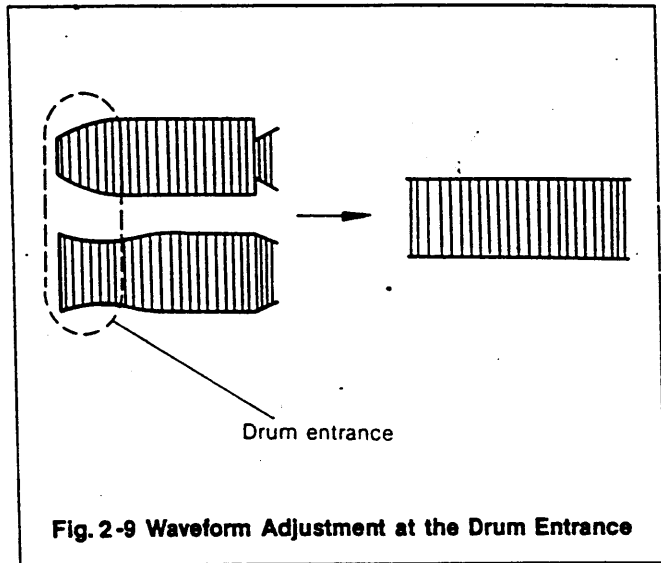

**Fig. 2-7 Adjustment Point**
- E. If the section B in Fig. 2-7 does not meet the specification, adjust the T-Guide Roller up or down.